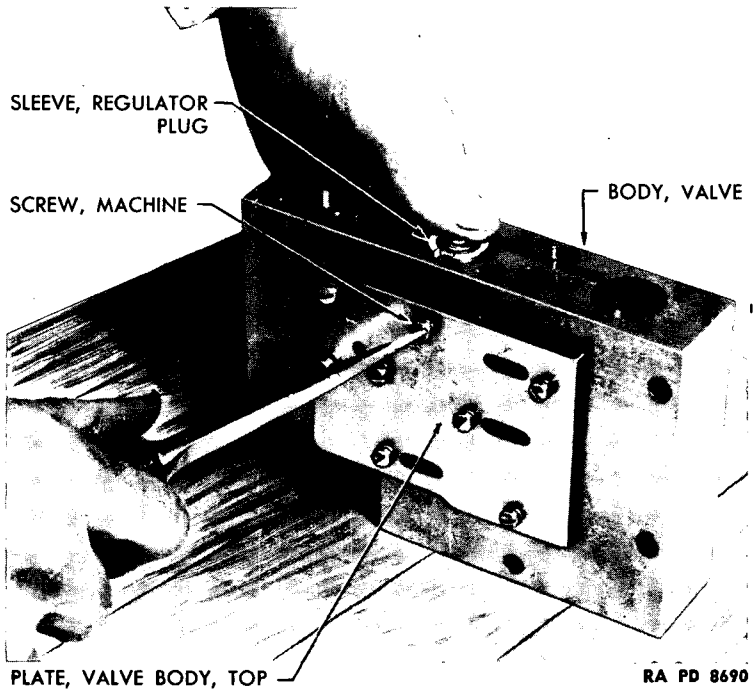
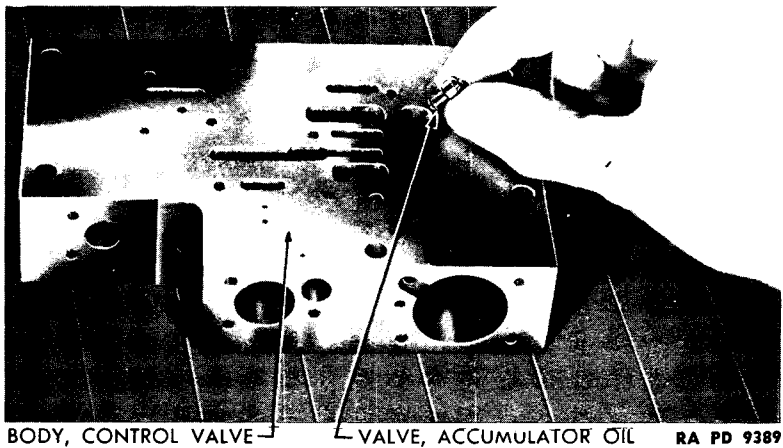

Figure 93 — Removing Regulator Sleeve
Figure 94 — Removing Accumulator Oil Valve
Remove round-head dowel screw in top cover plate, while holding thumb over regulator plug sleeve (fig. 93). Shifter valve springs (O and P, fig. 90) will force regulator plug sleeve (U) out. Note position of hole in sleeve where dowel screw fits. Remove shifter valve springs from valve body. Turn valve body so that clutch relay valve (L), throttle downshift valve (N), exhaust downshift valve (M), accumulator spring locating plug (K), and shifter valve (EE) with shifter valve spring spacer (CC) can be taken out of valve body. If necessary, tap
Remove seven screws and lock washers holding top cover plate to valve body (fig. 93). Lift accumulator oil valve out of valve body (fig. 94). Do not remove accumulator body pin (H, fig. 90).